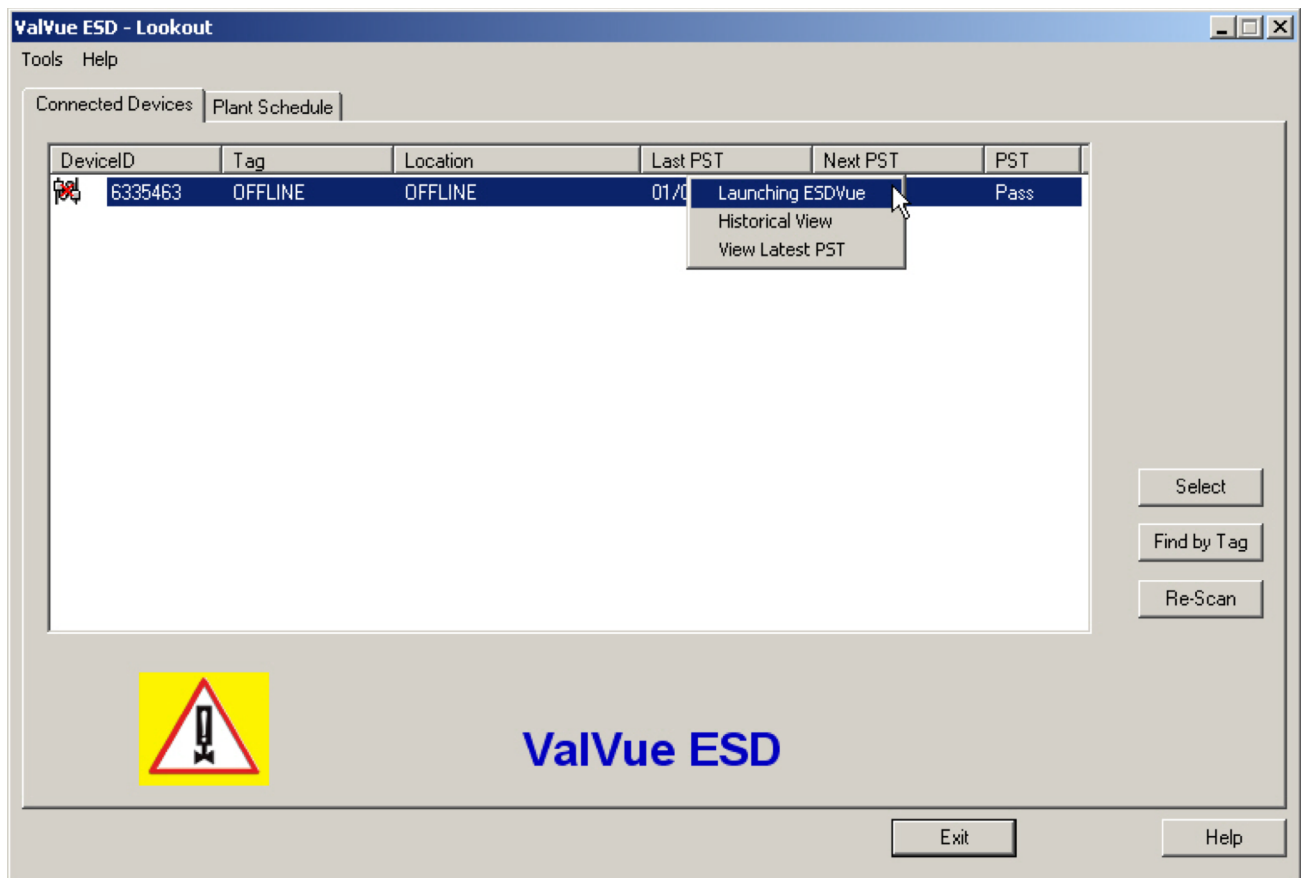

Figure 54 - Right Clicking Offline Device
- Right-click on the device name and select **Launching ESDVue** (Figure 54).